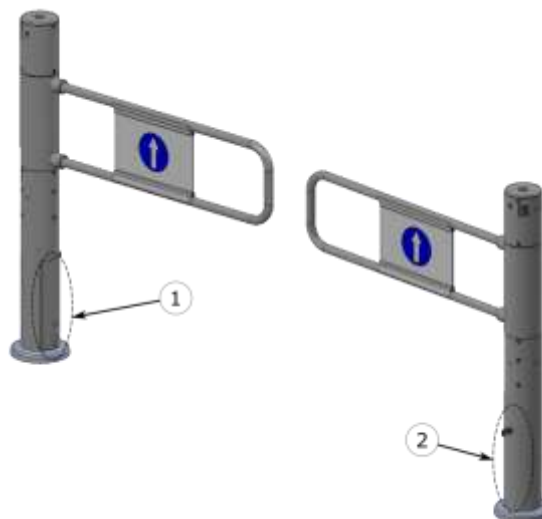

Figure 5-6: Cabinet Placing for the double Installation
When it is installed the double OverGate 3 (see items 1 e 2, Figure 5-6), the control logic doors must be front and aligned.